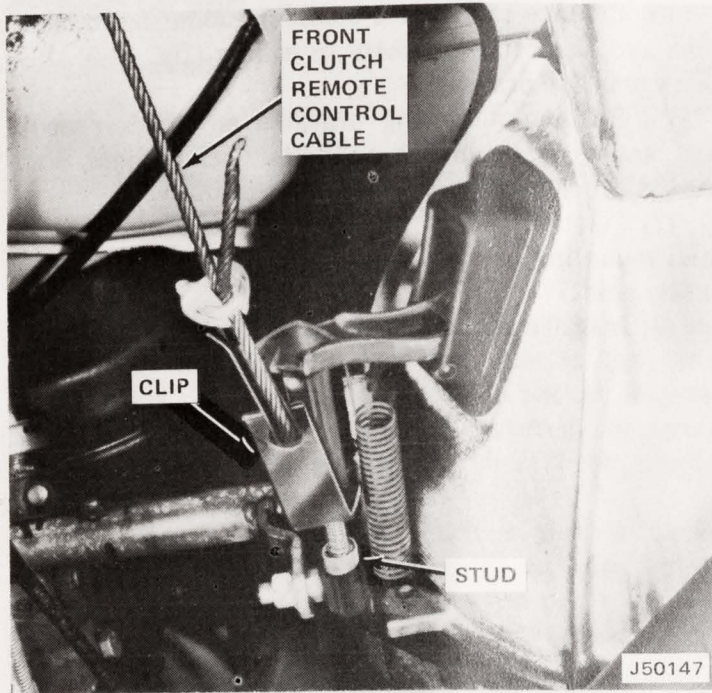

Fig. 10-4 Front Clutch Cable Installation
- (1) Remove front clutch remote control cable from clutch lever and from front clutch control crossbar (fig. 10-4).